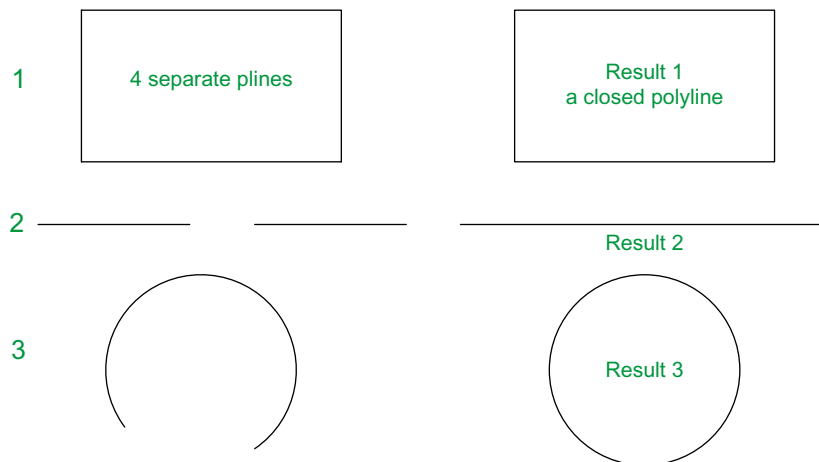

Fig. 5.38 Examples – Join
Examples – Join (Fig. 5.38)
1. Construct a rectangle from four separate plines – drawing **1** of Fig. 5.38; construct two lines – drawing **2** of Fig. 5.38 and an arc – drawing **3** of Fig. 5.38.
The results are shown in Fig. 5.38.